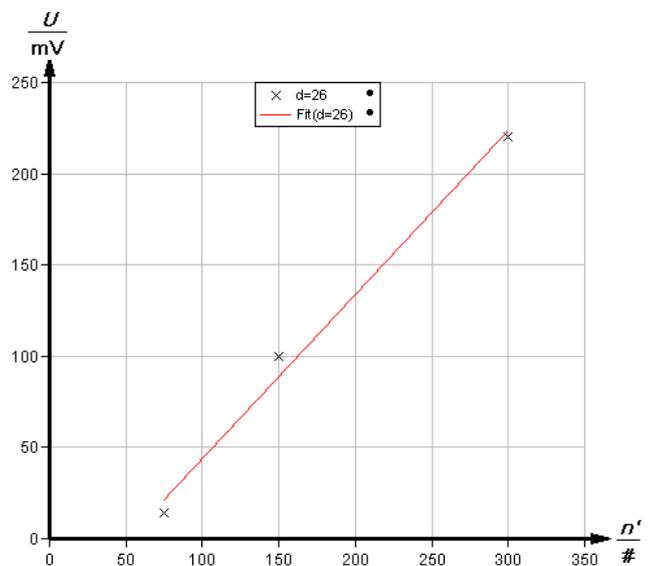

Fig. 4: induced voltage for different coils with a diameter of 26 mm following relation (14).
Fitting the measured values for the coils with a diameter $d = 26$ mm to a linear function gives relation (14) corresponding to Fig. 4.